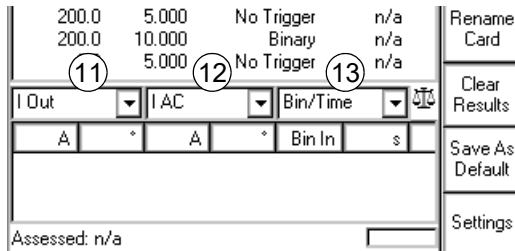

Figure 8-18: Step 3 - Specify the values that the measurement table will eventually show
The availability of the trigger signals depends on the selected values set at (11) and (12) of the measurement table (refer to Figure 8-18).